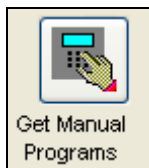

Figure 17.0.3
3. From the List of icons to the right of the **“Speed Communications”** screen select the **Get Manual Programs** icon (Figure 17.0.3).